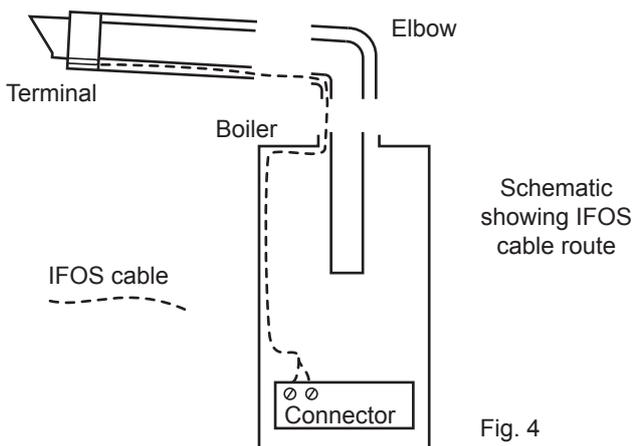

Fig. 4
7. Pass the loose end of the IFOS cable through the air duct of the flue elbow and into the outer part of the boiler adaptor (Fig. 4).